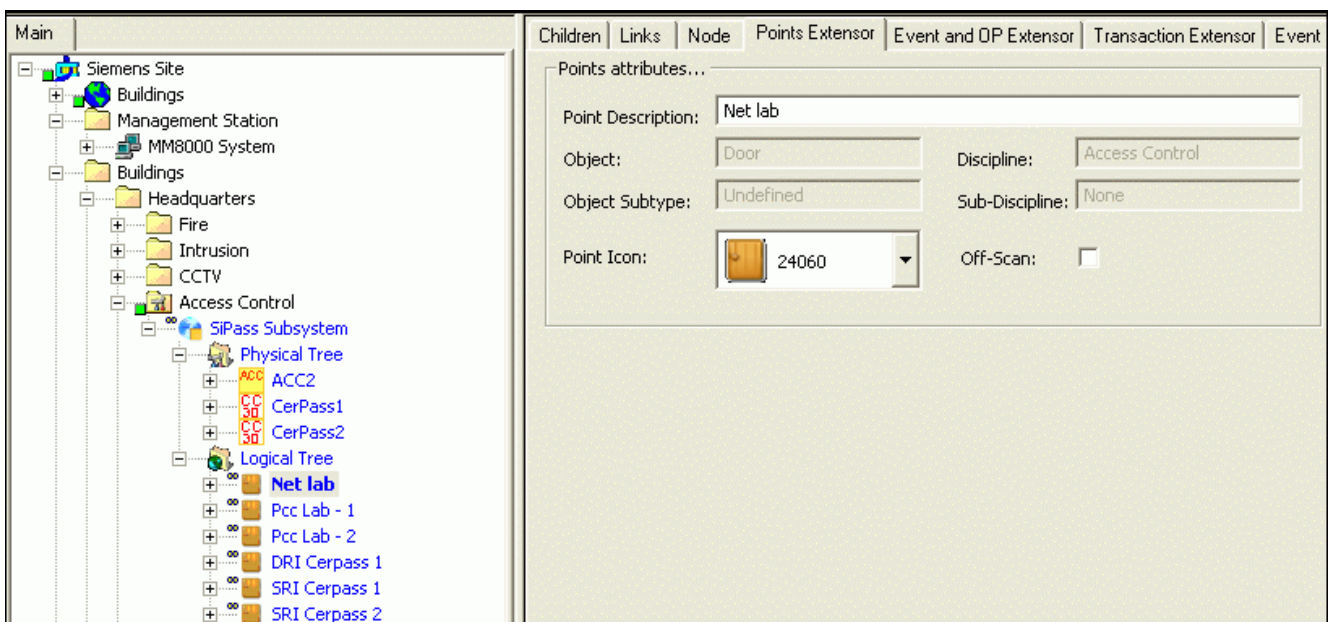

Fig. 11 Customising individual SiPass points
- In the **Point Extensor** tab of each individual point, customise the description and icon (Fig. 11).